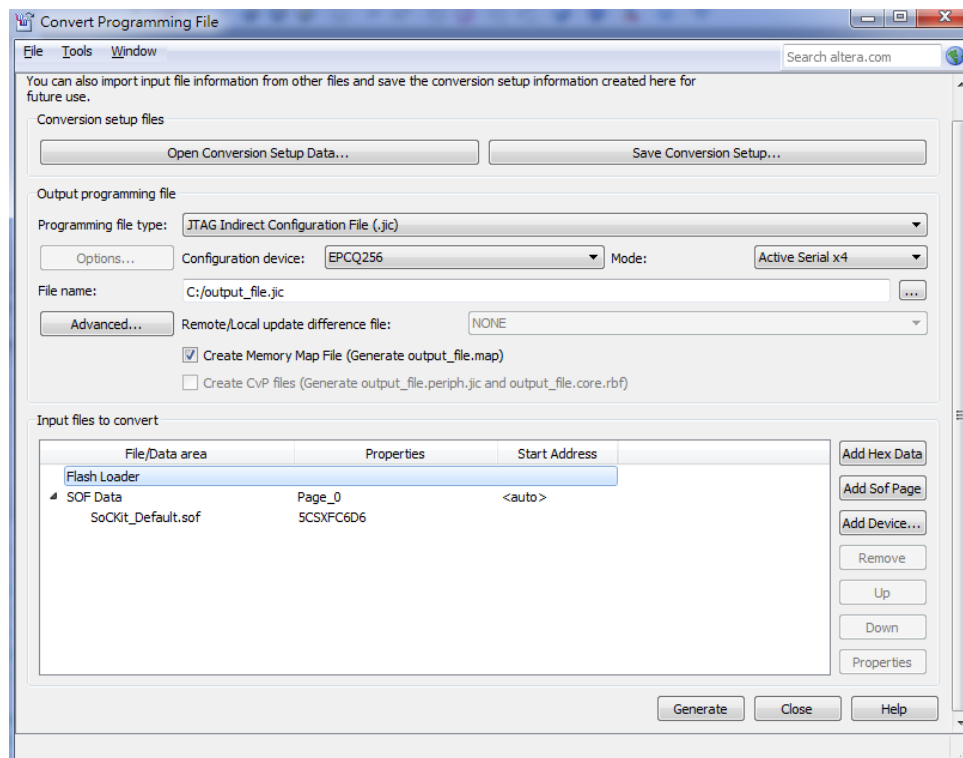

Figure 7-3. Highlight Flash Loader
12. Select the targeted FPGA that you are using to program the serial configuration device. See Figure 7-3.